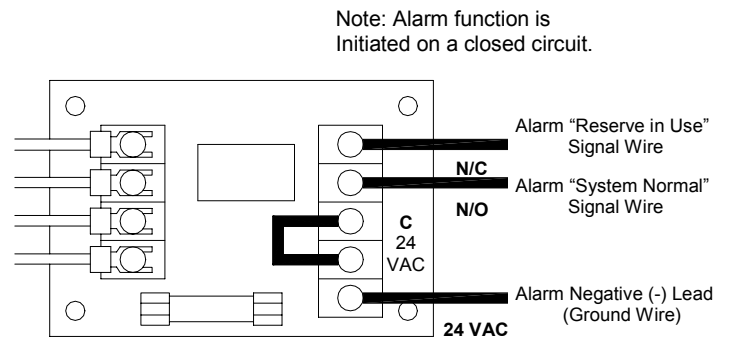

Figure 11
1. Connect the ground wire from the alarm to one 24 VAC terminal on the right side of the circuit board in the power supply box. (Figure 11)
2. A jumper wire is connected between the other 24 VAC terminal and the common (C) terminal.